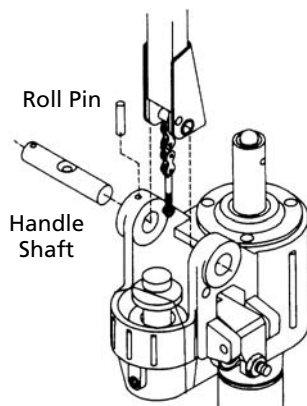

Figure 2 - Handle Assembly
1. Remove roll pin, and handle shaft from pump body (See Figure 2).